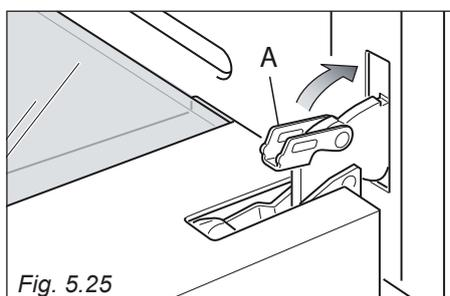

Fig. 5.25
- Unlock the oven door by opening it completely and closing the lever "A" on the left and right hinges (fig. 5.25).